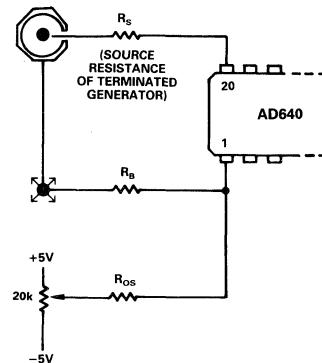

Figure 25. Optional Input Offset Voltage Nulling Circuit;
In most applications there will be no need to use any offset adjustment. However, a general offset trimming circuit is shown in Figure 25. R_S is the source resistance of the signal. Note: 50 Ω rf sources may include a blocking capacitor and have no dc path to ground, or may be transformer coupled and have a near zero resistance to ground. Determine whether the source resistance is zero, 25 Ω or 50 Ω (with the generator terminated in 50 Ω) to find the correct value of bias compensating resistor, R_B , which should optimally be equal to R_S , unless $R_S = 0$, in which case use $R_B = 5\Omega$. The value of R_{OS} should be set to 20,000 R_B to provide a $\pm 250\mu$ V trim range. To null the offset, set the source voltage to zero and use a DVM to observe the logarithmic output voltage. Recall that the LOG OUT current of the AD640 exhibits an *absolute value response* to the input voltage, so the offset potentiometer is adjusted to the point where the logarithmic output "turns around" (reaches a local maximum or minimum).
R4 is identical to R2, and in shunt with R3 (270 Ω thin film) forms a 27 Ω resistor with the same TC as the output resistance of the attenuator. By connecting Pin 1 to ATN LOW (Pin 2) this resistance minimizes the offset caused by bias currents. The offset nulling scheme shown in Figure 25 may still be used, with the external resistor R_B omitted and $R_{OS} = 500\text{k}\Omega$. Offset stability is improved because the compensating voltage introduced at Pin 20 is now PTAT. Drifts of under 1 $\mu\text{V}/^\circ\text{C}$ (referred to Pins 1 and 20) can be maintained using the attenuator.
Cascaded AD640s can be used in dc applications, but input offset voltage will limit the dynamic range. The dc intercept is 6 μ V. *The offset should not be confused with the intercept*, which is found by extrapolating the transfer function from its central "log linear" region. This can be understood by referring to Equation (1) and noting that an input offset is simply additive to the value of V_{IN} in the numerator of the logarithmic argument; it does not affect the denominator (or intercept) V_X . In dc coupled applications of wide dynamic range, special precautions must be taken to null the input offset and minimize drift due to input bias offset. It is recommended that the input attenuator be used, providing a practical input range of -74dBV ($\pm 200\mu$ V dc) to +6dBV (± 2 V dc) when nulled using the adjustment circuit shown in Figure 25.